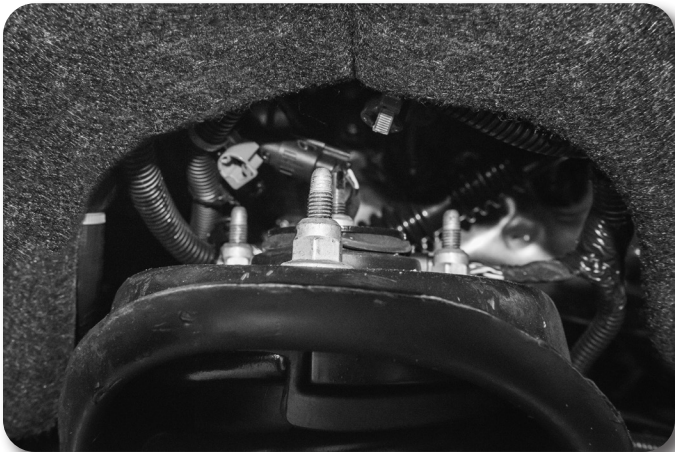

Figure 2
5. Remove the wire retaining clips from the strut studs and loosen but do not remove the three upper strut mount nuts at the frame. **Figure 2** Do not loosen- the center strut rod nut.